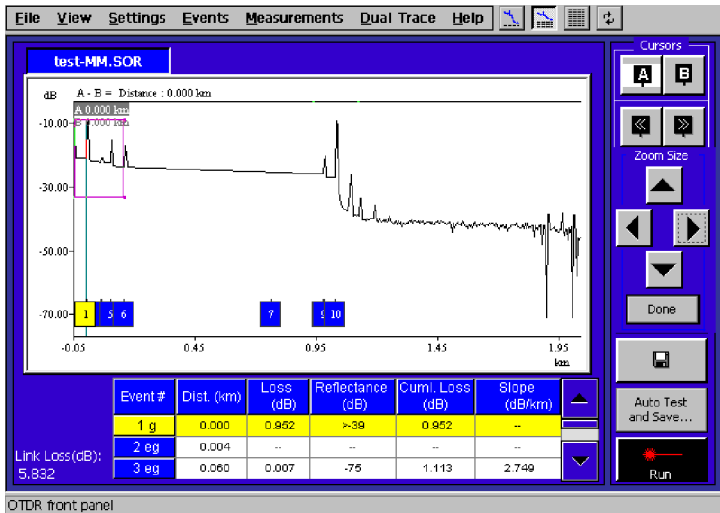

**Figure 2-16: Sample file Test-MM.SOR shows several types of events on a multimode fiber**
9. Look at the 10 events. You will see something similar to Figure 2-16.